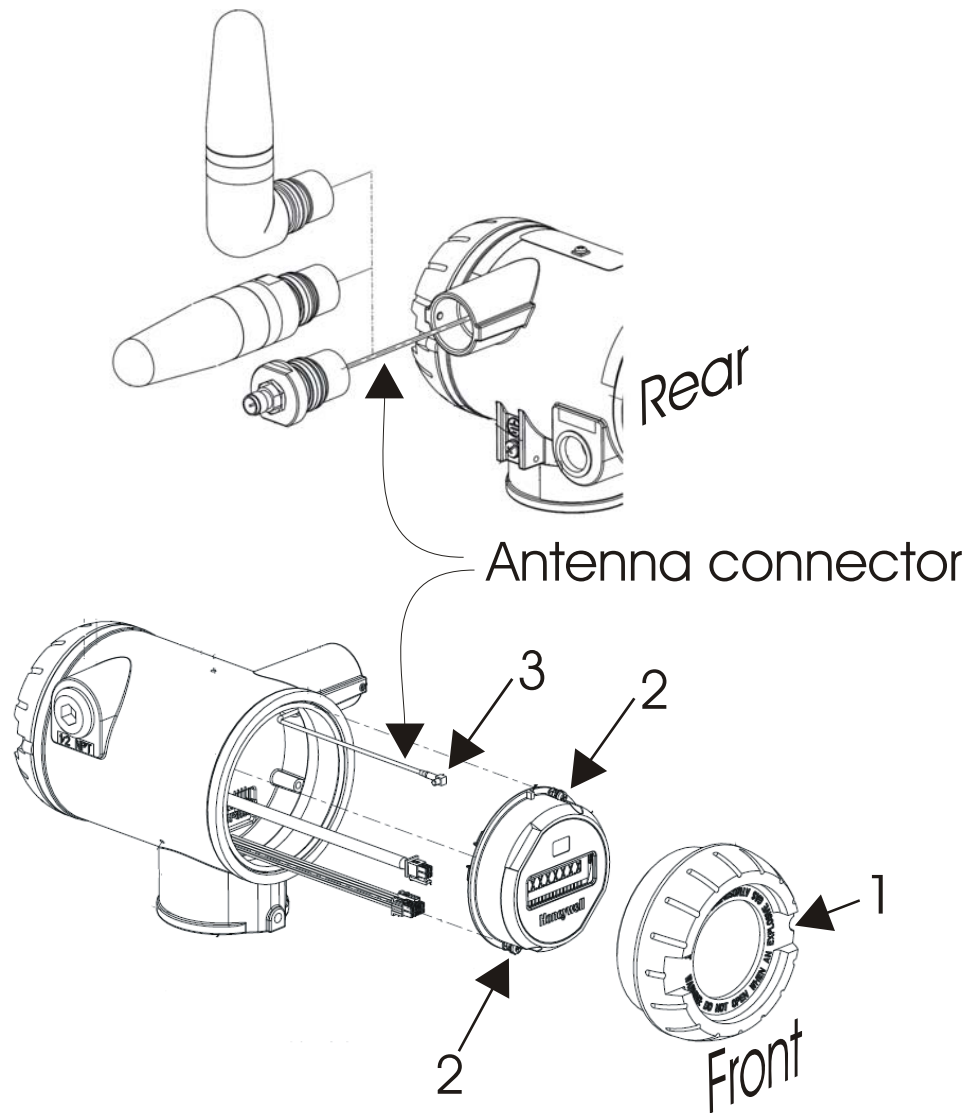

Figure 11 Antenna replacement
2	Loosen the M3 locking set screw on the display end-cap. See item 1 in Figure 11. Unscrew and remove the front end cap.
3	Loosen the two screws on the display/sensor module. See items 2 in Figure 11.
4	Remove the display/sensor module from the transmitter body and disconnect the antenna connector from CN2 connector on the display/sensor module. See item 3 in Figure 11.
5	Loosen the locking set screw at the antenna base. Unscrew the antenna from the transmitter. Remove the antenna and its connector from the transmitter. See Figure 11.
7	Attach antenna connector to CN2 connector on display/sensor module. See item 3 in Figure 11.
8	Insert display/sensor module. Orient in the proper viewing orientation before tightening two sensor compartment screws. See items 2 in Figure 11. Torque screws to 0,4 – 0,6 N-M (3.5 – 5.3 Lb-in).